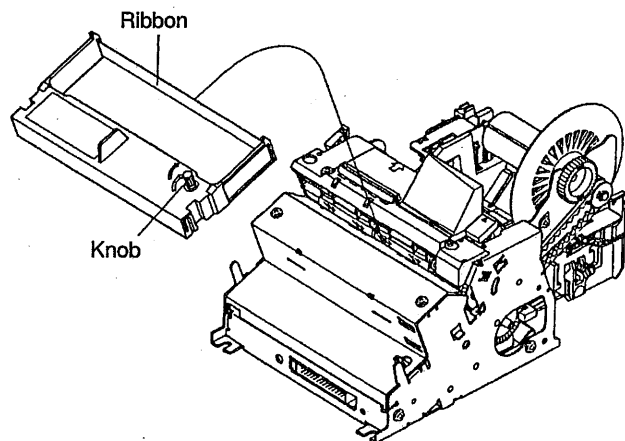

Figure 2.6 Attachment of ribbon cassette
- (2) Insert the ribbon between the platen and dot head unit (see Figure. 2.6).